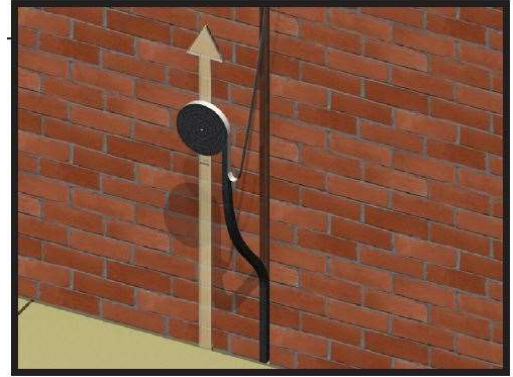

Figure 3
3. If the joint runs horizontal, begin installing the material at one side of the joint (either side) and continue to install the material working towards the opposite end. For vertical joints begin installation at the bottom of the joint and work upward. See **Figure 3**